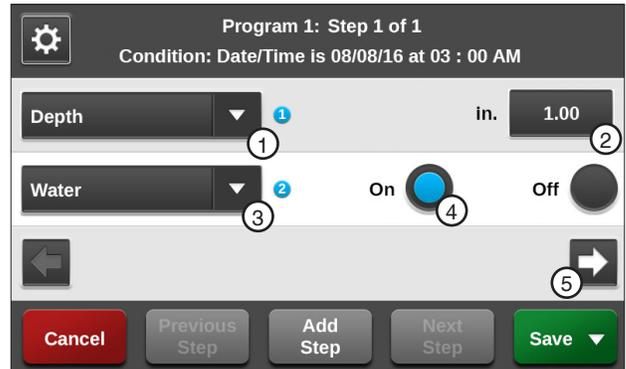

Figure 125-1 1. Depth Command 4. Water On
5. Enter the commands to be executed at that time. Refer to Figures 125-1 and 125-2.